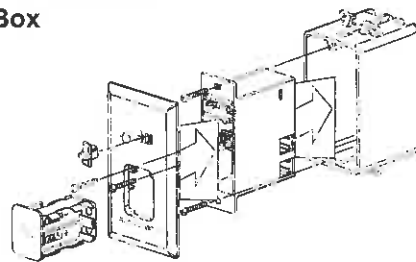

Figure 3
- Secure the Remote Receiver to the wall mount. See figure 3.